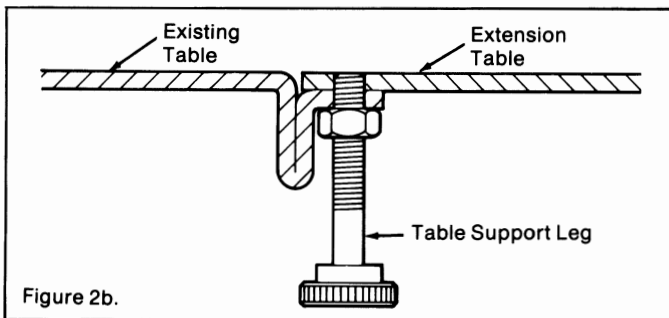

Figure 2b.
5. Thread the nuts toward the table and tighten, securing the two tables into place (figure 2b).